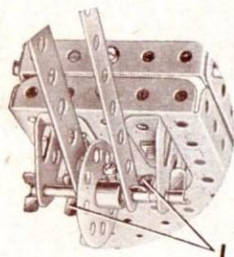

Fig. O.4a
The 5 1/2" Strips forming the handle are placed one on each side of a Bush Wheel on the front axle, and they are held in place by Spring Clips (1), as shown in Fig. O.4a.